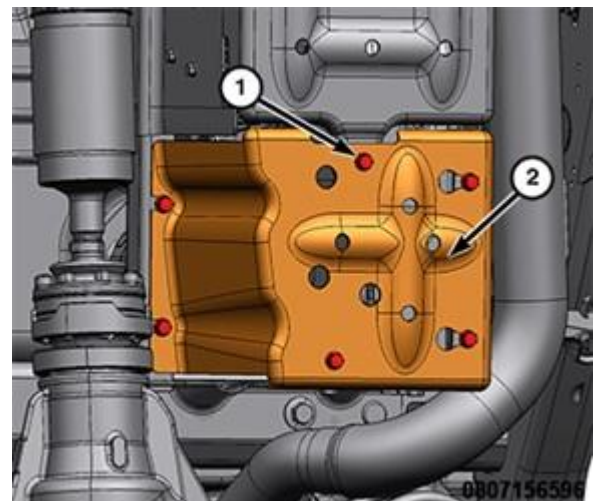

Figure 22 – Skid Plate
16. Remove the fasteners (1) and the skid plate (2) from the vehicle (Figure 22).